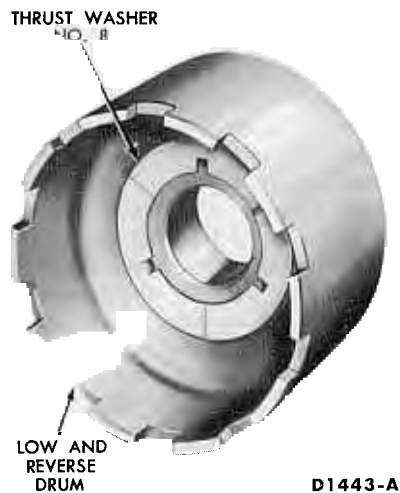

FIG. 94—Number 8 Thrust Washer Location
17. Install thrust washer No. 8 on top of the low and reverse drum (Fig. 94). Install the low-reverse band in the case, with the end of the band for the small strut toward the low-reverse servo (Fig. 39).